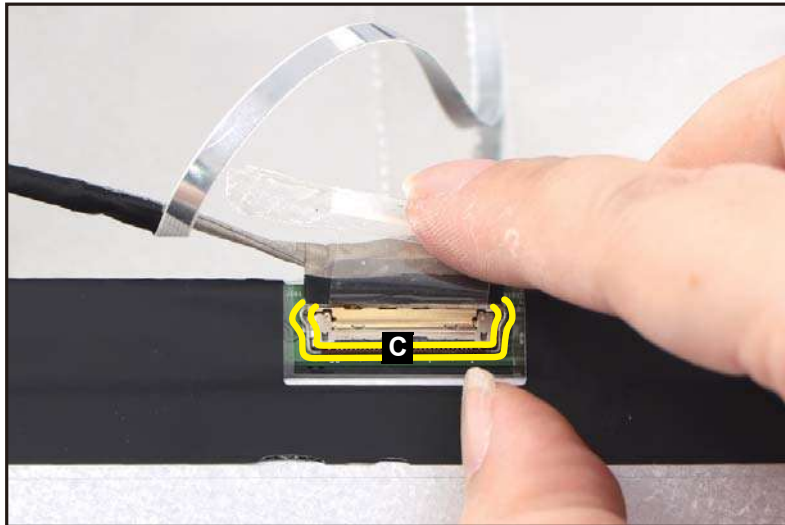

Figure 3-79. Replacing the LCD Panel
3. Push the latch (C) down to secure the LCD cable in place (Figure 3-79).